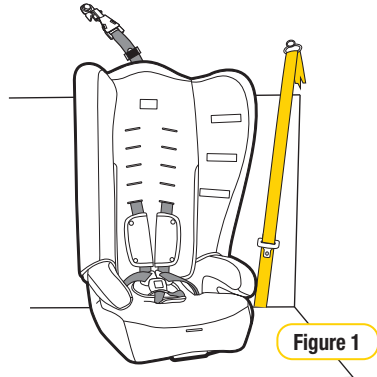

Figure 1
**Step 1:** Place the child restraint in desired upright or reclined position, with the back against the back of the vehicle seat, directly in line with the anchorage point (see Figure 1).